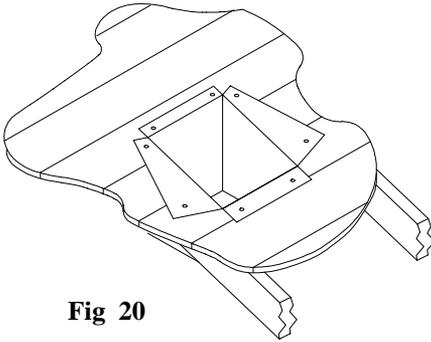

Fig 20
Step 5. Using tin snips, cut the Support Box from the top corners down to the roofline, and fold the resulting flaps over the roof sheathing. The flaps may be trimmed as needed. (Fig 20) Before nailing it to the roof, run a bead of non-hardening sealant around the Support Box, to make a seal between the Box and the roof. Clean out any combustible material from inside the Support Box.